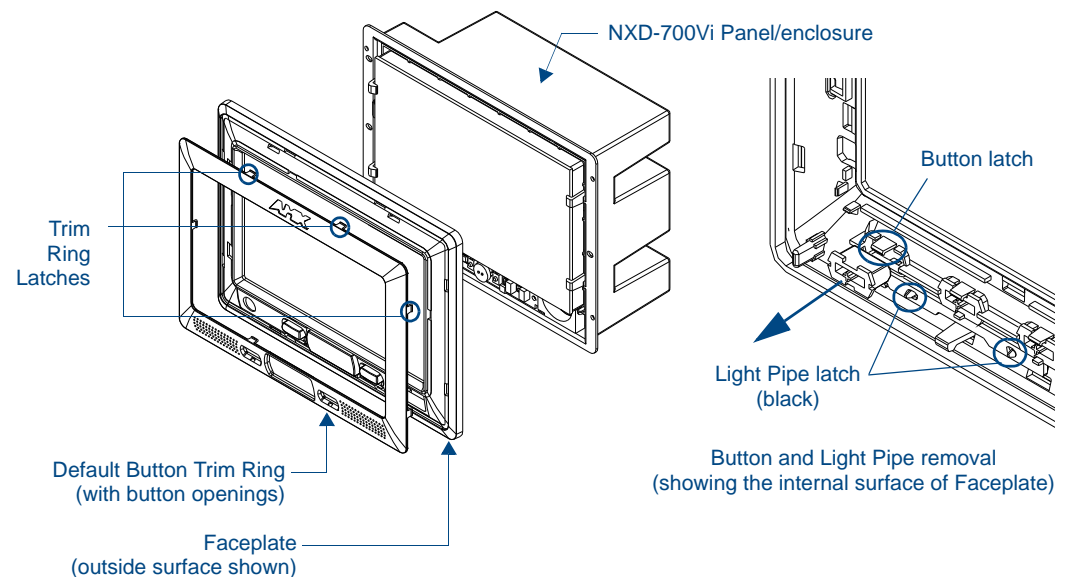

FIG. 7 Removing the default Button Trim Ring
2. Turn the Faceplate over to expose the inside surface and view the Trim Ring latches (FIG. 7).
4. Gently tug along the edges of the Button Trim Ring and work your way around the edges to remove it from the Faceplate (FIG. 7).